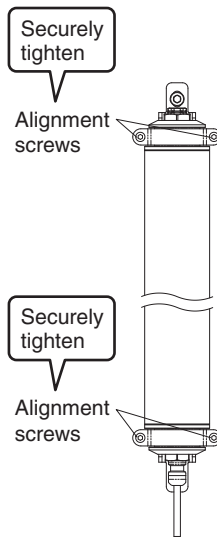

Fig. 5
- Securely tighten the beam alignment screws to fix the sensor housing. The recommended torque to tighten these screws is 3.0 N•m (Fig. 5).